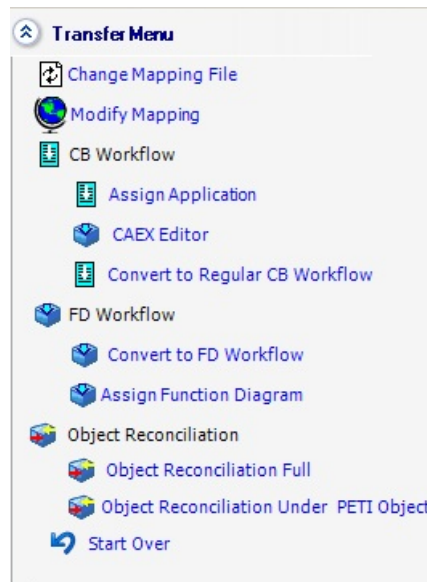

Figure 44. Transfer Menu List
6. Click **Transfer Menu** as shown in Figure 44.